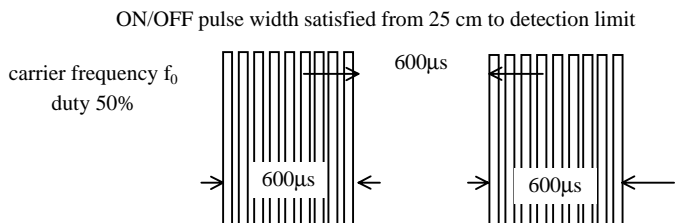

Fig 1. Burst Wave
- (3)Standard transmitter ... Burst wave indicated in Fig 1. of standard transmitter